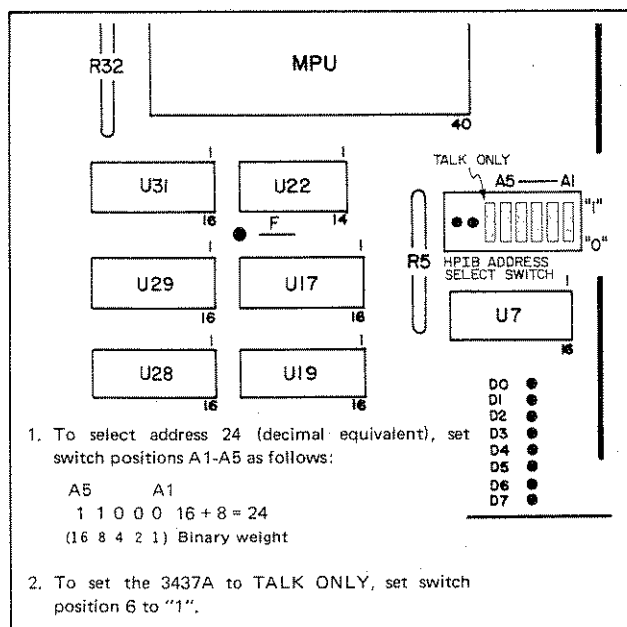

Figure 3-2. Address Select Switch and Address Code Designators.
**3-34. HP-IB Address Selection.** A seven-bit binary code forms the complete TALK or LISTEN address of the 3437A. The first five bits of the code (selected by A2S1) are referred to as the instrument address. The remaining two bits (DIO 6-7) are controller originated and define the address to be either TALK or LISTEN. The seven-bit code forms an ASCII character (Table 3-3) that uniquely defines the selected TALK or LISTEN address. Figure 3-2 illustrates the address select switch and address code designators.